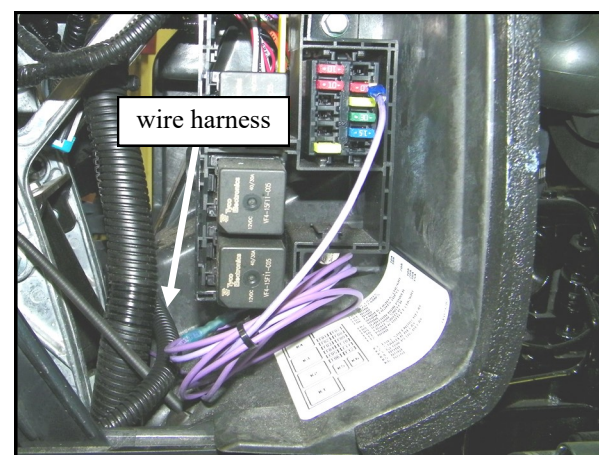

Fig. 2.5 (Wire Harness—Right Side of Vehicle)
2.5 Run the wires from the left side panel to the right side panel near the fuse panel as shown. Next, run the wires down to the floor board. See Fig. 2.5. Let the remaining loom rest on the floorboard for now.